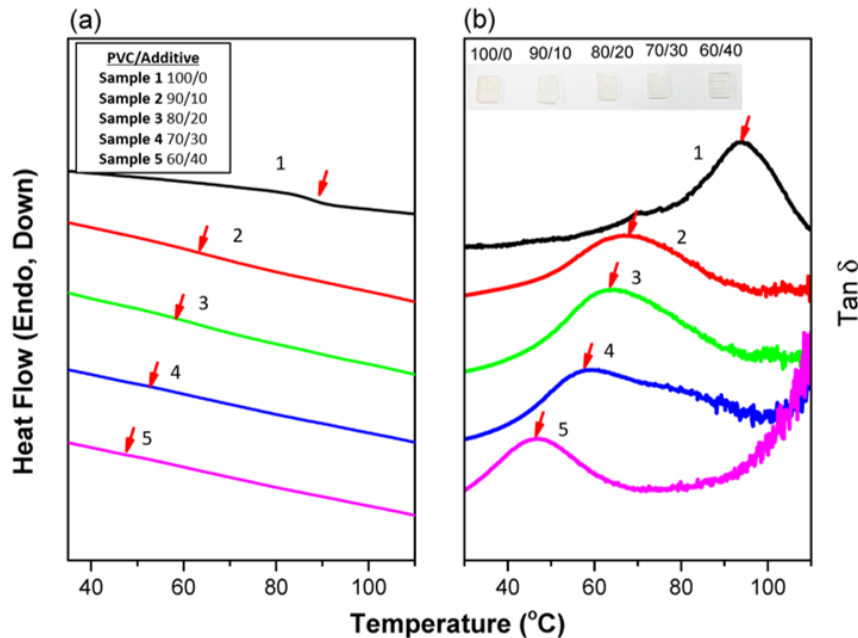

Figure 4: Heat flow and tan delta profiles of poly (vinyl chloride) PVC
- (b). Figure 4 shows the heat flow and tan delta profiles for PVC samples, with and without additive. The additive composition is presented in the Figure 4 and denoted with sample number 1 to 5.
Using the information from the Figure 4, analyse and elaborate both profiles, specifying the effect of the added additive to the change of profiles trend. Your elaboration must include suitable arguments on polymeric structure. Then suggests the type of additive used.